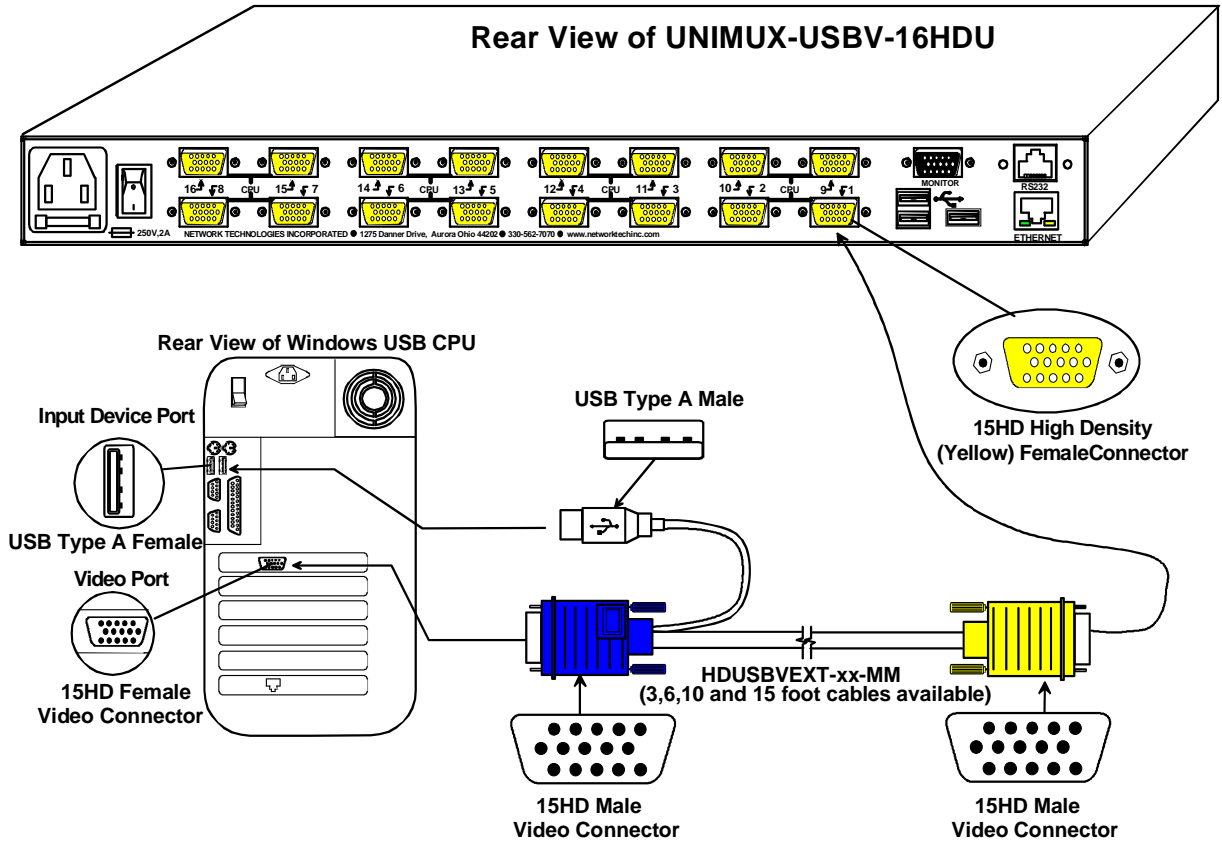

Figure 7- Connect each CPU using a HDUSBVEXT-xx-MM cable
- Connect the 15HD yellow male cable end of the HDUSBVEXT-xx-MM cable to a yellow “CPU x” port on the UNIMUX switch. (See Figure 7)